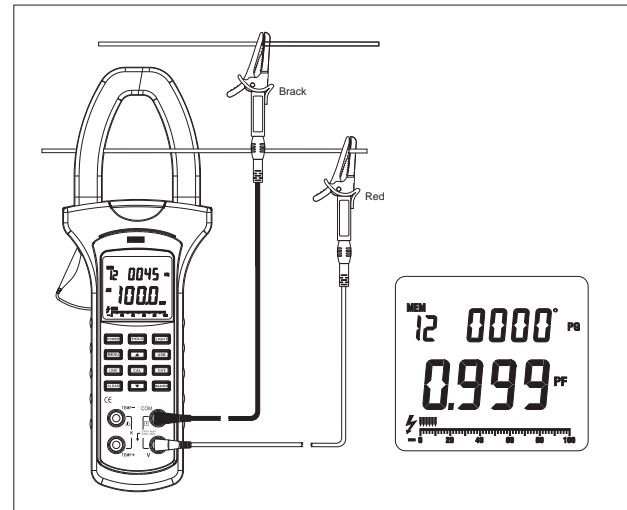

Figure 8
E. Power Factor (main display) + Phase Angle (secondary display) Measurement (see figure 8)